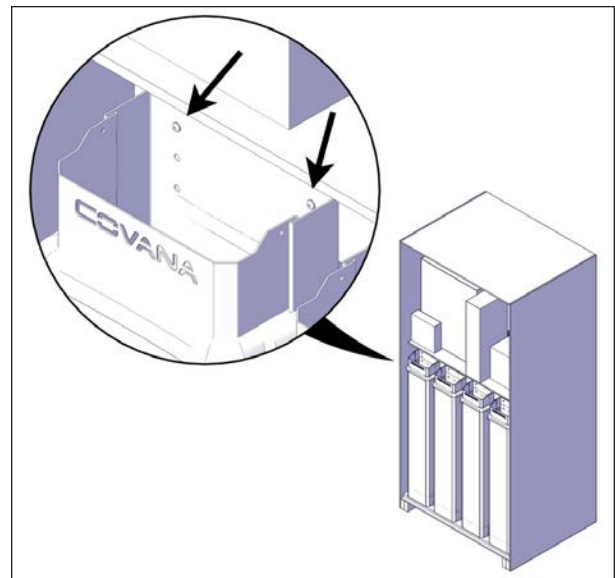

FIGURE 19: SLEEVE REMOVAL
7. Unscrew the two Robertson #8 x 1.5" screws holding the top of the sleeves – four sleeves: eight screws in total, see Figure 19